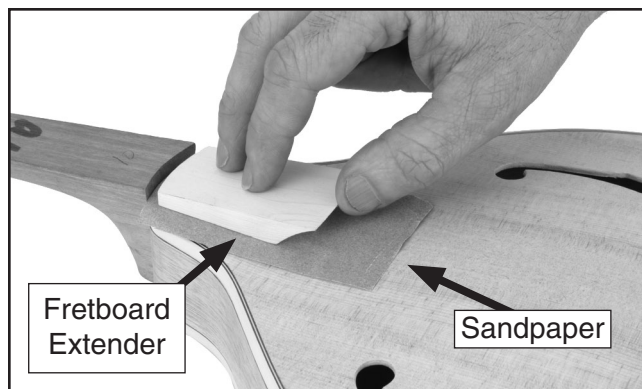

Figure 23. Example of fitting the fretboard extender.
- Place the fretboard extender at the base of the neck (see **Figure 23**).
—If there are gaps, place #220 grit sandpaper face up on the top at the base of the neck. Rub the fretboard extender on the sandpaper until the extender conforms to the body shape as shown in **Figure 23**.